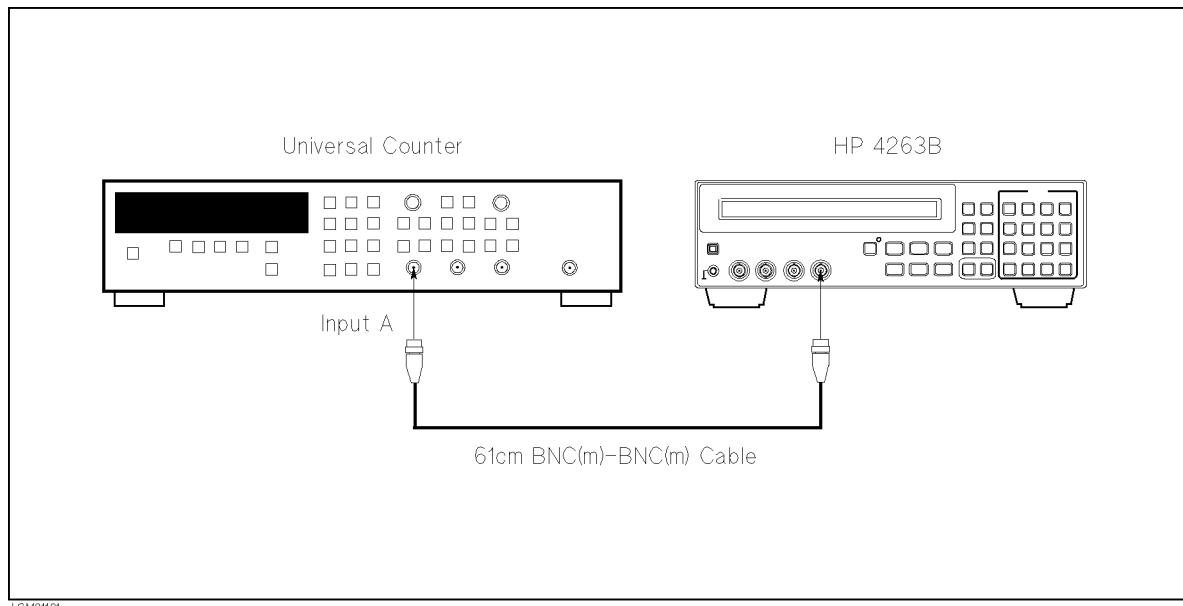

Figure 9-1. Test Signal Frequency Accuracy Test Setup
2. Set up the equipment as shown in Figure 9-1.